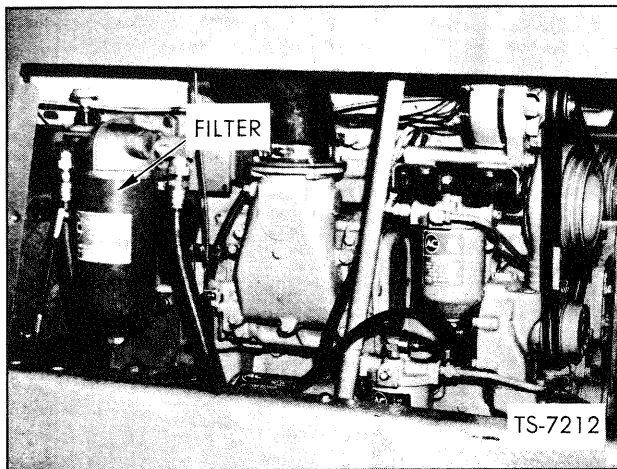

Fig. 8 Transmission and Torque Converter Filter Position
4. Replace the element in the transmission and torque converter filter assembly. (See Fig. 8 for the position of the filter assembly.) Thoroughly clean the filter case and base casting before installing a new element. Use a new gasket in the base casting and tighten the center bolt to 50 ft. lbs. torque.